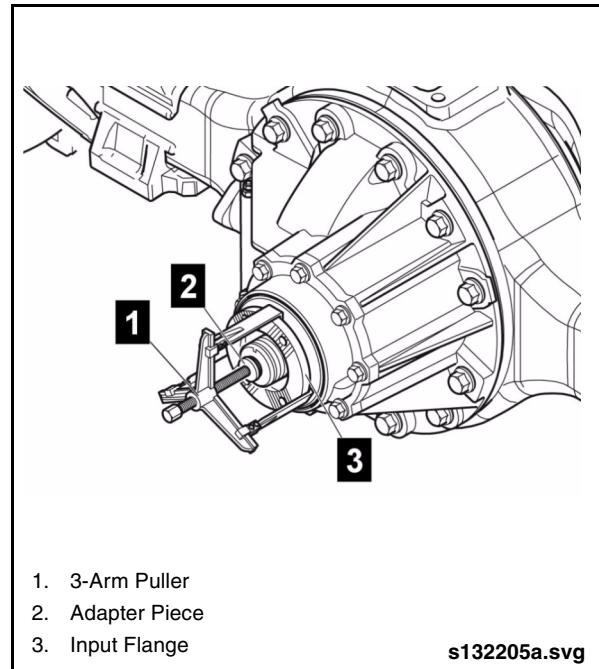

Fig. 2-34: Pulling Off Input Flange
2. Thread the 3-Arm Puller spindle against the Adapter Piece to remove the input flange. See “Fig. 2-34: Pulling Off Input Flange” on page 33.